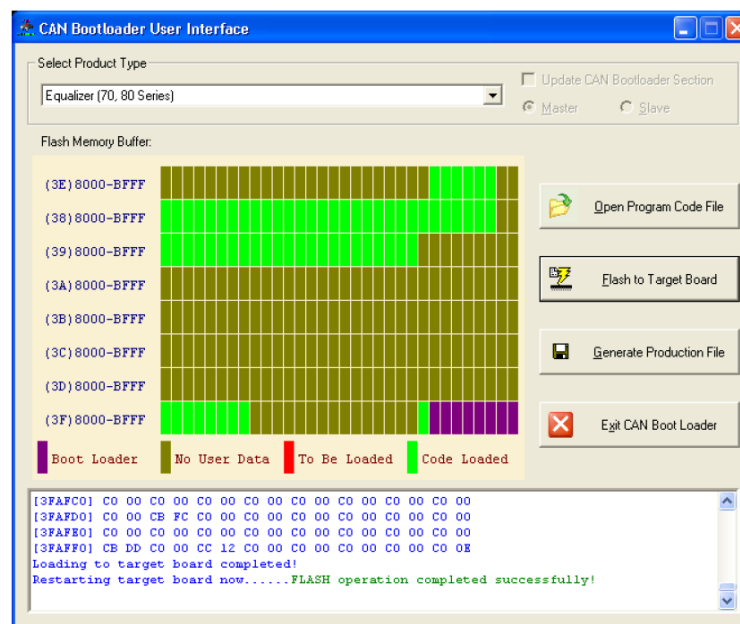

Figure 9: CAN Bootloader User Interface – Flashing operation completed successfully
9. Wait until all red blocks turn into green and a successful message is displayed at bottom. Refer to Figure 9.